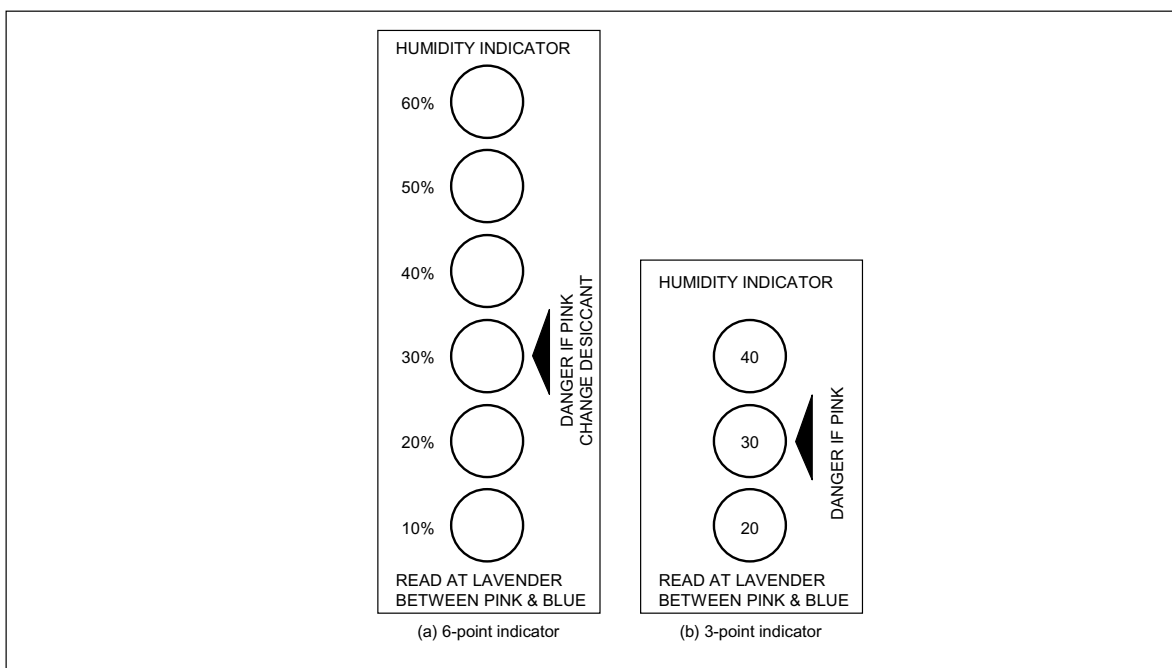

**Figure 4.1 Humidity Indicator**
- (3) Do not drop or toss device packing. The laminated aluminum material in it can be rendered ineffective by rough handling.
- (4) The storage area temperature should be kept within a temperature range of 5°C to 30°C, and relative humidity should be maintained at 90% (max). Use devices within 12 months of the date marked on the package seal.
- (5) If the 12-month storage period has expired, or if the 30% humidity indicator shown in Figure 4.1 is pink when the packing is opened, it may be advisable, depending on the device and packing type, to bake the devices at high temperature to remove any moisture. Please refer to the table below. After the pack has been opened, use the devices in a 5°C to 30°C, 60% RH environment and within the effective usage period listed on the moisture-proof package. If the effective usage period has expired, or if the packing has been stored in a high-humidity environment, bake the devices at high temperature.